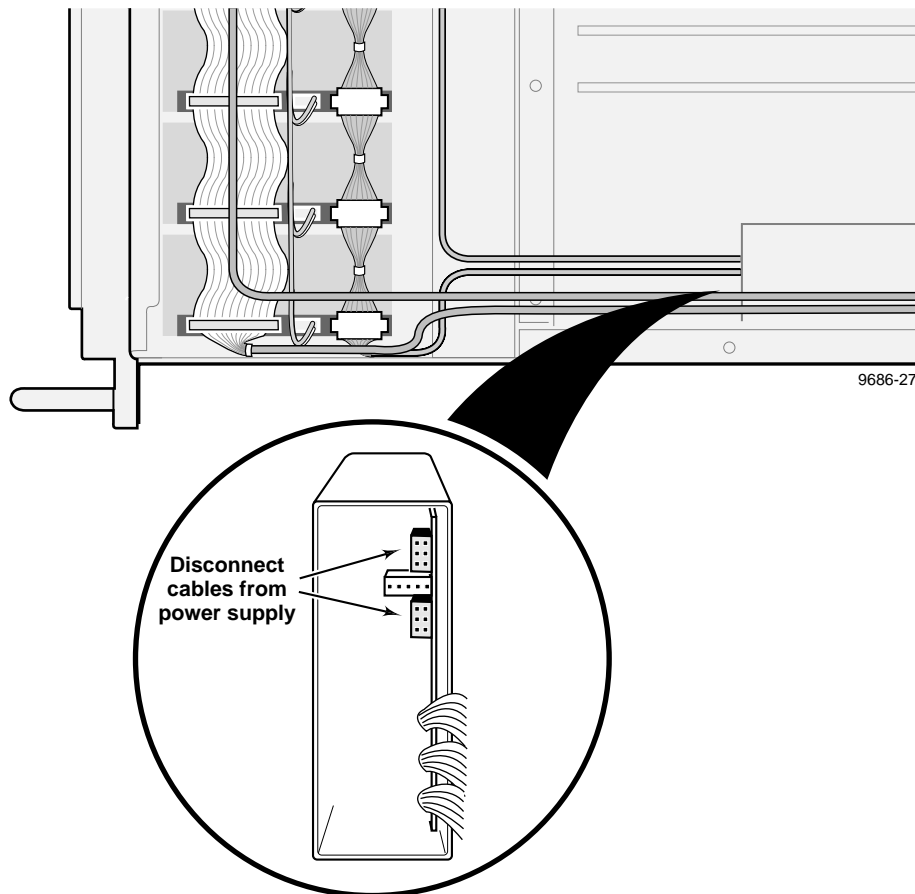

Figure 8. Disconnecting the power supply cables
3. Disconnect the two cables from the connectors at the top rear of the power supply. See Figure 8.